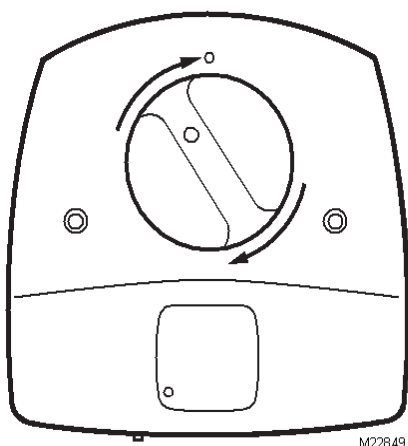

Fig. 5. Snap lamp handle into place.
8. Rotate the lamp handle clockwise until it snaps into place with the light indicator aligned with the raised button on the unit cover. See Fig. 5.